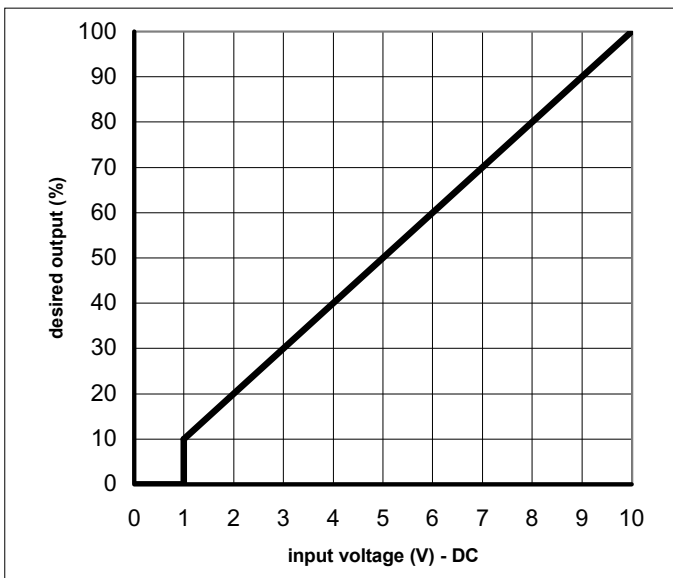

Fig. 18 Output control via analog (0-10 Volt) signal
- Output based - fixed parameters (10 to 100%), see Fig. 18.